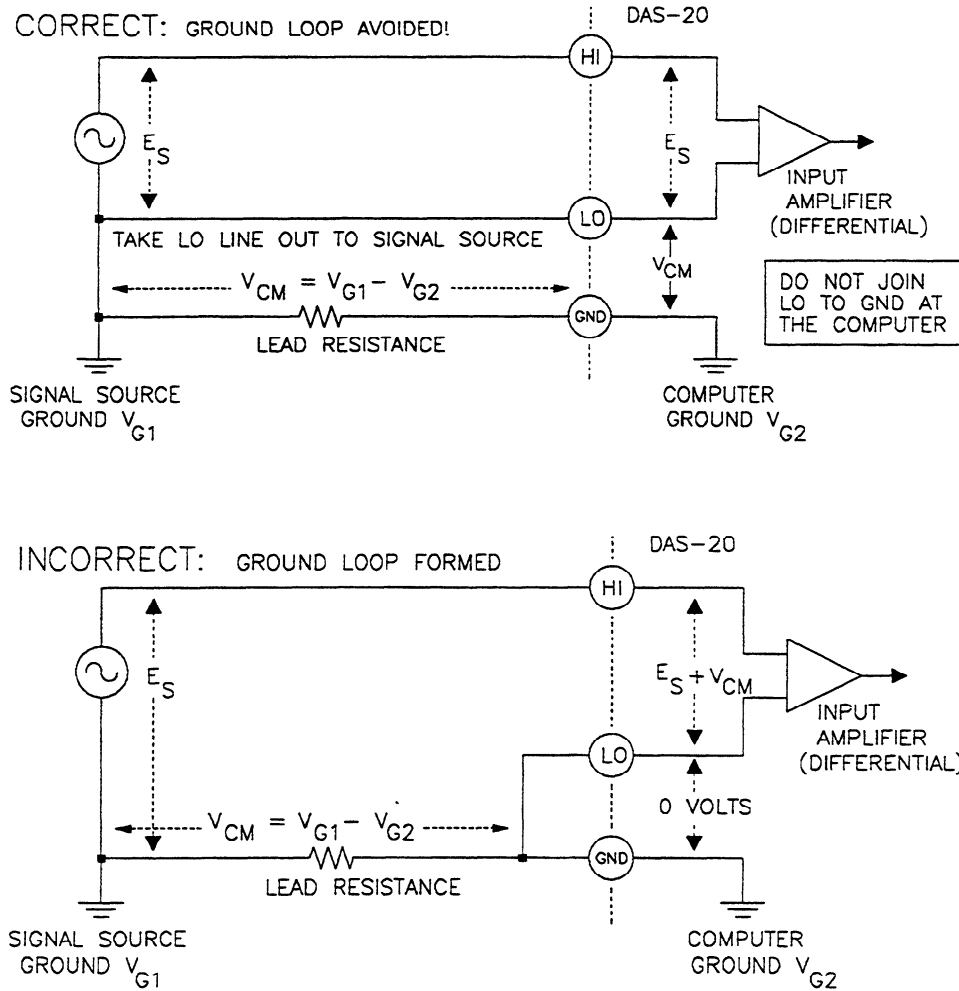

Figure 7-2. Common Mode voltages and differential inputs.
If one side of the signal source connects to a local ground, the 8-channel differential configuration should be used. A differential input responds only to difference signals between the high (HI) and low (LO) inputs. In practice, the signal-source ground and the DAS-20 (computer) ground are not at exactly the same voltage because they are connected through the ground returns of the equipment and the building wiring. The difference between the ground voltages (see Figure 7-2) forms a common mode voltage i.e. a voltage common to both inputs (V_{cm}). A differential input is designed to reject this common mode error up to a certain limit. In the case of DAS-20, the inputs are designed to handle a common mode limit of ± 12 volts. If a ground referred signal source is wired to a single ended input as shown in Figure 7-3, the difference in voltage between grounds appears in series with the input signal, causing errors, noise, unreliable readings by what is known as a *ground loop*. For